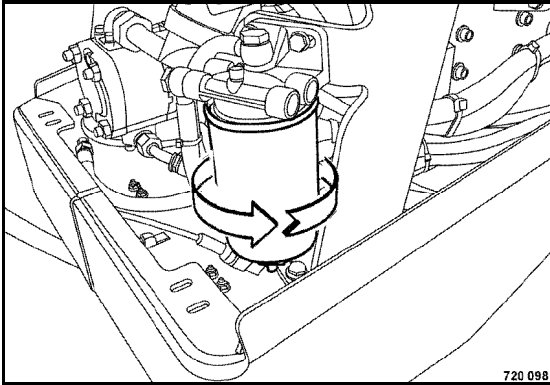

Fig. 117
- Apply a thin film of fuel to the seals and screw the new filter cartridge (Fig. 117) on hand-tight.